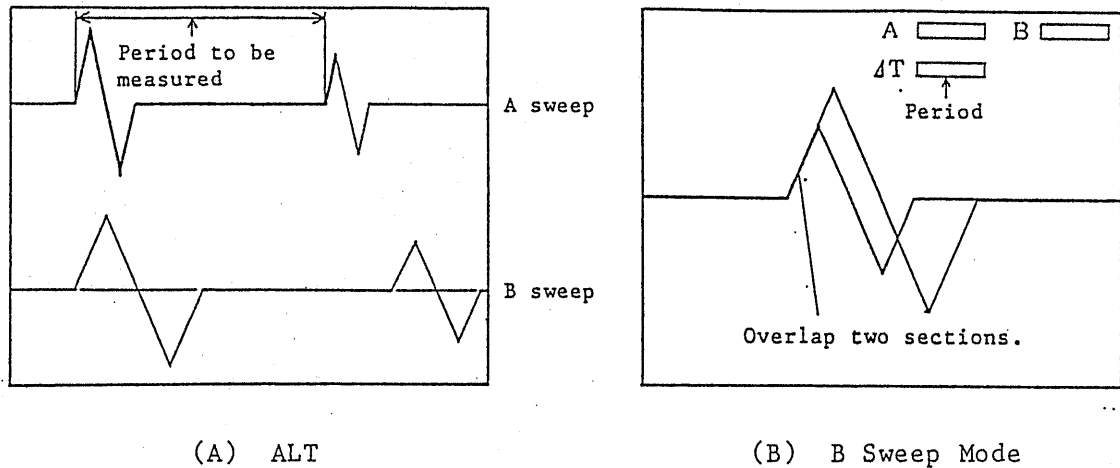

Figure 4-8. Time Interval (Period) Measurement with Delayed Sweep
- (1) Display the waveform on the CRT by adjusting the VOLTS/DIV, A TIME/DIV, and POSITION.
- (2) Set the HORIZ MODE (36) to ALT. Operate sweep in the continuous delay mode by releasing from the B TRIG mode.
- (3) Set the CURSOR SW (31) to ΔT . An A-sweep waveform with two intensity modulated sections and a B-sweep waveform with sections representing the same intensity-modulated sections but with delayed timings will appear on the CRT. (See Figure 4-8 A.)
- (4) With the RREADOUT control (33), move the two intensity-modulated sections to the positions between which the time interval is to be measure. It also is possible to move the two intensity-modulated sections in a tracking mode keeping the distance between them unaltered.
- (5) Pull out the A,B TIME/DIV (16) and set the B sweep time for more fine viewing of the measuring points on the delayed B sweep. Now you may set the HORIZ MODE (36) to the B sweep mode so that the B-sweep waveform alone is displayed. When in the B sweep mode, you may employ the $\times 10$ MAG function.
- (6) By adjusting the READOUT control (33), overlap the two measuring points on the B sweep waveform. (See Figure 4-8 B.)
- (7) The time interval measured as above will be displayed on the CRT readout.